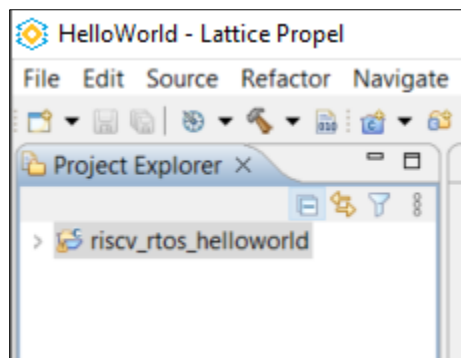

Figure 7.20. Hello World C Project Created
6. This loads the Hello World project in the workspace as shown in Figure 7.20.